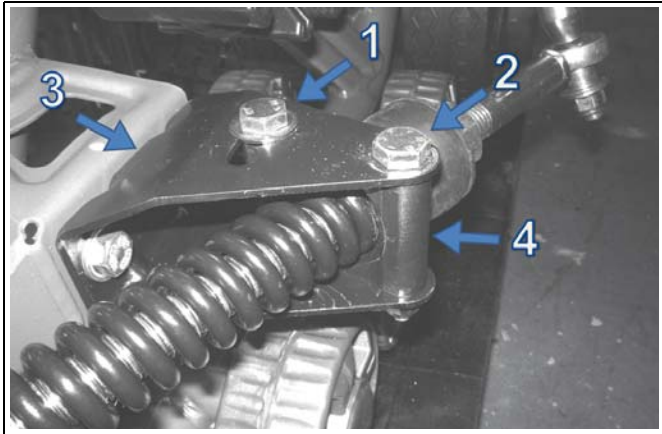

Figure 9
- Loose the bolts (1) and (2) of the bracket anti-rotation (3) to allow at the anti-rotation retainer (4) to rotate in the axle. (See Figure 9).